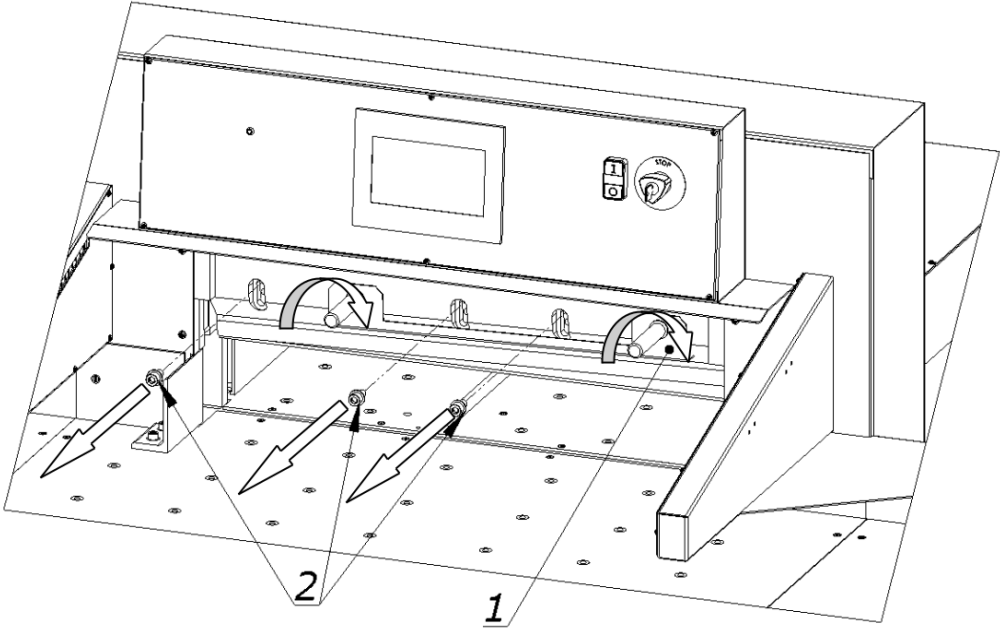

Figure 26
8.1.1.12 Unscrew and remove the screws 2 (fig.26)